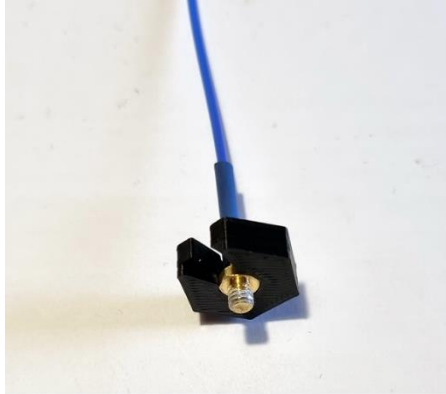
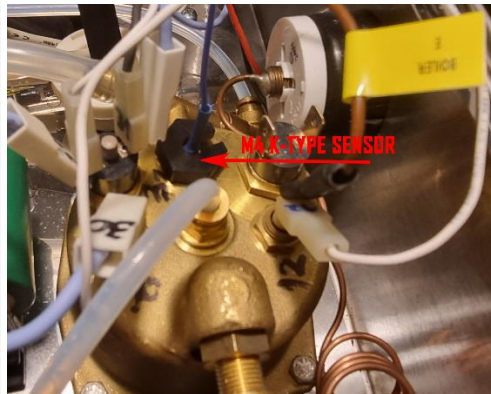

Fig.6.10
Fig. 6.11
- Install the K-Type M4 SENSOR - BOILER plug . Use the provided tool (fig.6.10) to screw it in B position (fig. 6.11)